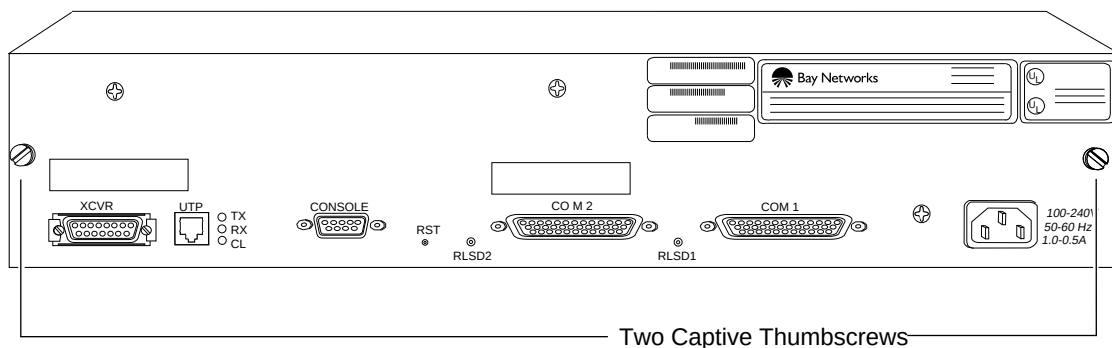

Figure 1-1. Removing the Back Panel Screws
3. **Loosen the two captive thumbscrews on the back panel (Figure 1-1).**